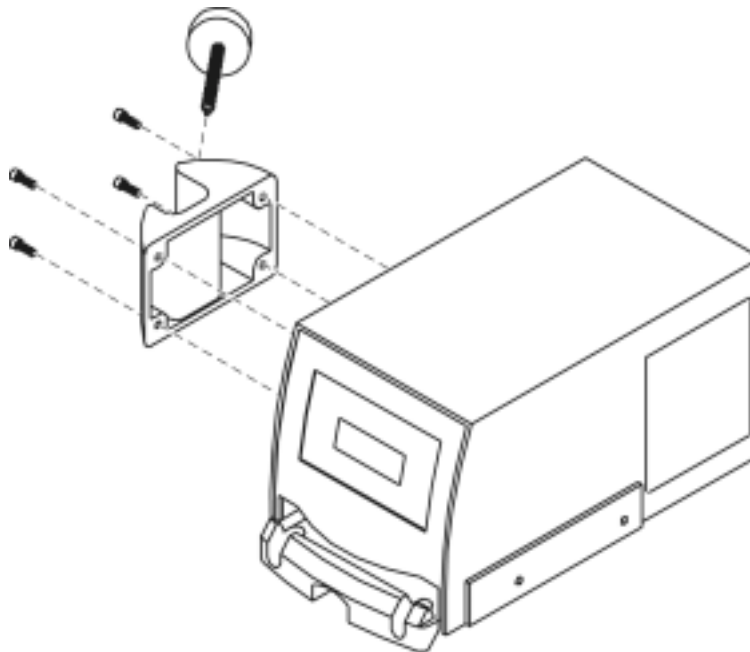

Figure 13: IV Mounting Bracket Removal
14. Install the IV pole mount bracket on the FW-538. The screws should be torqued to 6 inch/lbs (15 cm/kg). See Figure 13.